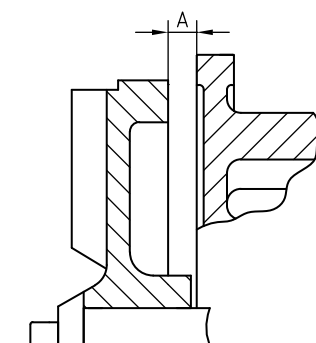

Figure 12: Adjusting the impeller FRES.
- 2 Adjust the impeller to size **A** between the rear of the impeller and the intermediate cover. See figure 12 and Table 6 below. Preferably use 2 calibrated rulers.